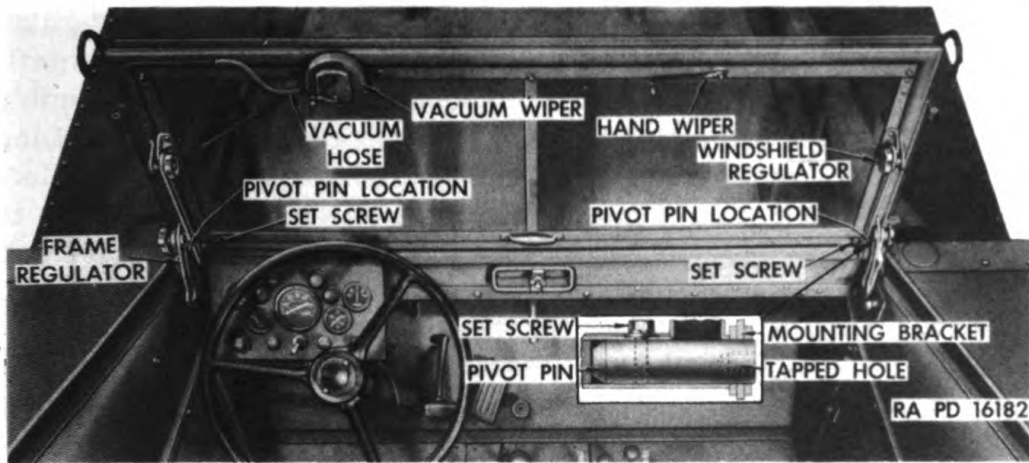

Figure 155—Windshield Mounting and Wipers
a. Left Windshield Wiper Removal. This vacuum operated wiper is mounted to top of windshield frame and connected to vacuum tube by a rubber hose. Refer to Fig. 155.
(1) Disconnect hose at vacuum tube near wiper motor on rear side of windshield. Unscrew wiper arm lock nut from end of wiper shaft at front side of windshield and remove washer and wiper arm. Remove one screw from each side of wiper motor. These screws attach wiper motor to windshield frame. Pull wiper motor away from windshield until shaft clears frame.
(1) Insert motor shaft through hole in windshield frame at rear side of windshield and attach motor to frame with two screws. Assemble wiper arm on end of motor shaft from front side of windshield and attach with lock nut and washer. Connect vacuum hose between vacuum line and motor.
c. Right Windshield Wiper Removal. Right windshield wiper is mounted in top of windshield frame at right side and is hand operated. Refer to Fig. 155.
(1) Unscrew lock nut which attaches handle on rear side of windshield and remove operating handle.
(2) Pull wiper arm and shaft away from front side of windshield until shaft clears hole in frame.
(2) Put operating handle on end of shaft from rear side of windshield and clamp in place by installing lock nut.
e. Windshield Glass Removal. Glass and glass frame assembly can be removed from tubular supporting frame without loosening tubular frame mountings. Refer to Fig. 155.
(1) At front side of windshield near top use a screwdriver to bend left end of hinge open. At rear side of windshield remove two thumb screws from regulator adjusting arm clamp bolts at each end of windshield. Disconnect vacuum hose at left wiper motor.
(2) Swing glass and frame assembly outward at bottom to clear tubular support frame. Then slide glass and frame to left from front side of windshield. Movement will disengage portion of hinge connected to glass frame from portion of hinge connected to tubular support frame. Remove glass and frame to suitable bench or table.
(3) Remove three crown nuts and bolts attaching top section of glass frame to rest of frame and pull off top section or channel. Remove glass from right and left sections of frame and clean all frame channels thoroughly.
(1) Brush inside of frame channels with soap solution or rub with paraffin to facilitate glass installation.
(2) Place strip of rubber filler over edge of new glass and slide frame in place over rubber filler and glass. Fit filler strip at corners of glass as necessary.
(3) Install second section of glass in same manner.
(4) Put top section of frame over top edge of glass sections and install three bolts and crown nuts. Replace glass and frame assembly in tubular support frame on vehicle by sliding hinge sections together from left end (from front side) of support frame. Bend end of hinge to lock windshield in position.
(5) Close windshield and fit regulator adjusting arms over adjusting clamp bolts at each end of windshield. Then install thumb screws and tighten to clamp windshield in closed position.
g. Windshield and Tubular Support Frame Removal. Complete windshield and tubular support frame can be removed as an assembly. Refer to Fig. 155.
(1) Remove thumb screws from regulator adjusting arm clamp bolts at each end of windshield and remove clamp bolts and washers. This permits windshield and tubular support frame to be tipped forward at top and supported on stanchions in deck plate.
(1) Put complete assembly in position on vehicle and line up holes in bottom tube with holes in support brackets.
(2) Slide pivot pins into hole through each bracket and into frame bottom tube. Refer to inset in Fig. 155. Set screw holes in pins must line up with set screw holes in frame tube.
(3) Install set screws in bottom tube to hold pivot pins in place. Raise forward edge of windshield to vertical position so that slot in each regulator adjusting arm is aligned with hole in each support bracket.
(4) Install adjusting arm clamp bolts through regulator adjusting arms and bolt brackets, using washers in correct position. Put on thumb screws and tighten to clamp tubular support frame and windshield in an upright position.